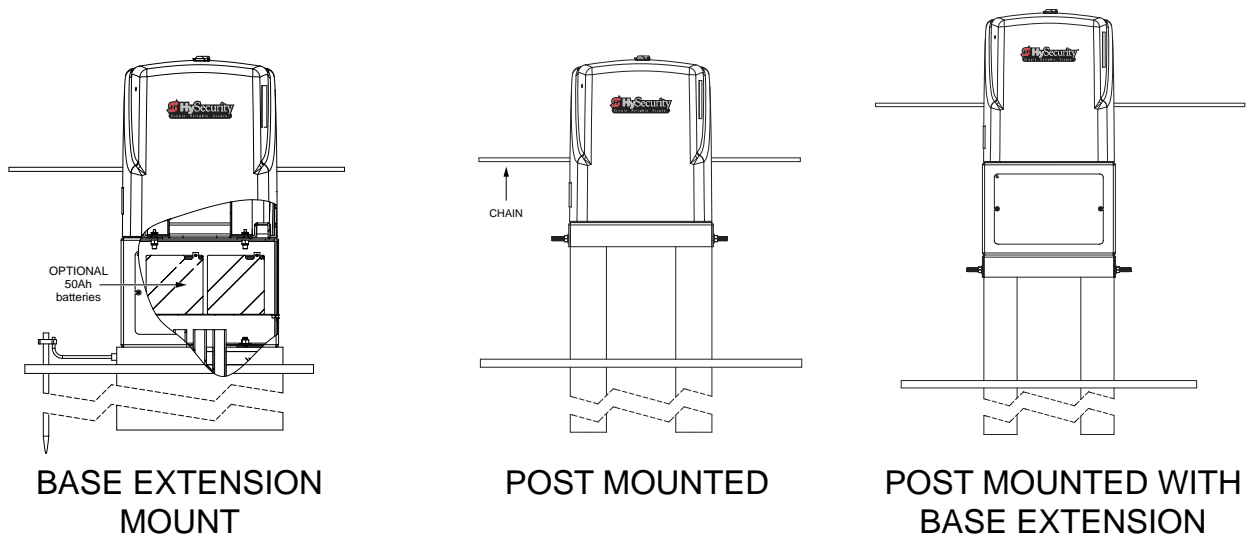

Figure 7. Base Extension Mount
A rear installation requires additional idler wheels and gate brackets, but it provides aesthetics as the chain is not visible along the gate. See Figure 7.
2. For a rear installation, see Figure 7.